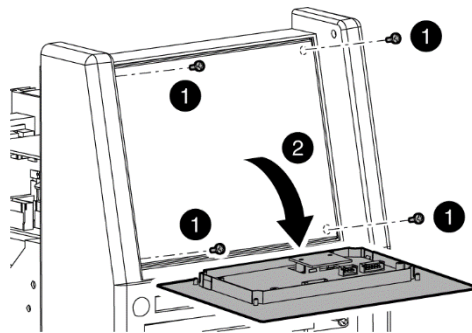

Figure 7-2 VRD ON/OFF Step B, C
Remove four mounting screws from the control panel (see Figure 7-2).
- b) Access the VRD control by gently prying back the front panel controls to reveal the VRD on/off potentiometer (see Figure 7-2).